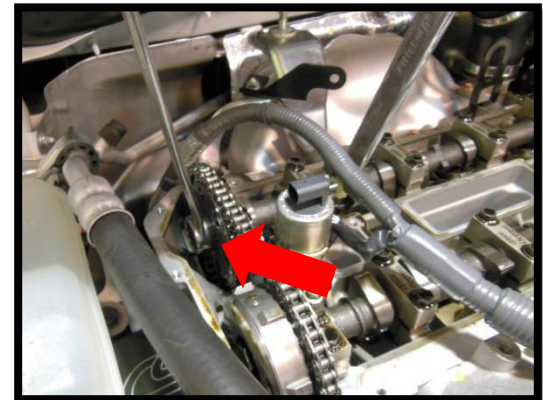

Figure 3s
- s) Loosen the exhaust timing chain pulley bolt (red arrow in Figure 3s). Hold the camshaft in place with a 23mm wrench and loosen the bolt with a 21mm wrench.